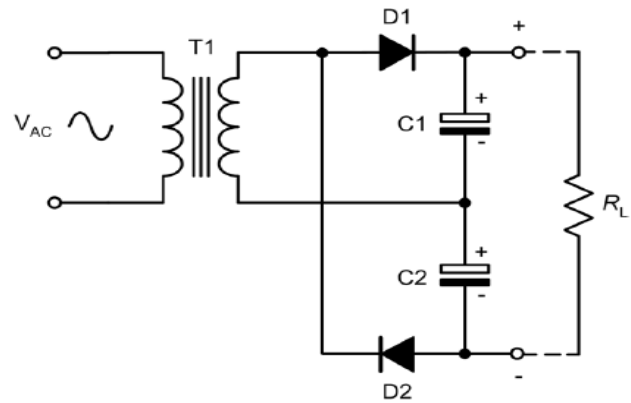

Fig. 1.13: Voltage Doubler
- A voltage doubler using this technique is shown in Fig. 1.13.